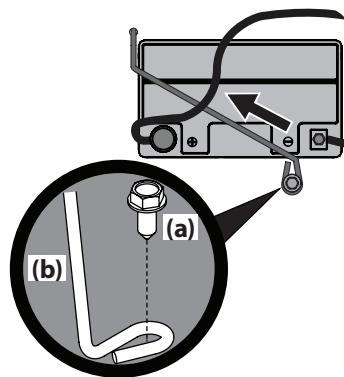

Figure 20
**NOTE:** Wiring harness should lay on top of battery hold down rod, otherwise damage to the wiring harness may result. See Figure 20 on page 10.
3. Remove the hex washer screw (a) securing the battery hold-down bracket (b) to the frame. Then flip the battery hold-down bracket (b) up to free the battery. See Figure 20.